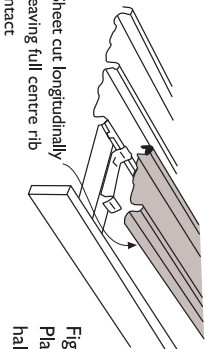

Figure 5.
- 1. If the space left between the last full sheet and fascia or parapet is more than half the width of a sheet, cut a sheet along its length leaving the center rib complete. (see fig 5) Secure the cut sheet to a row of clips, as for a full sheet.